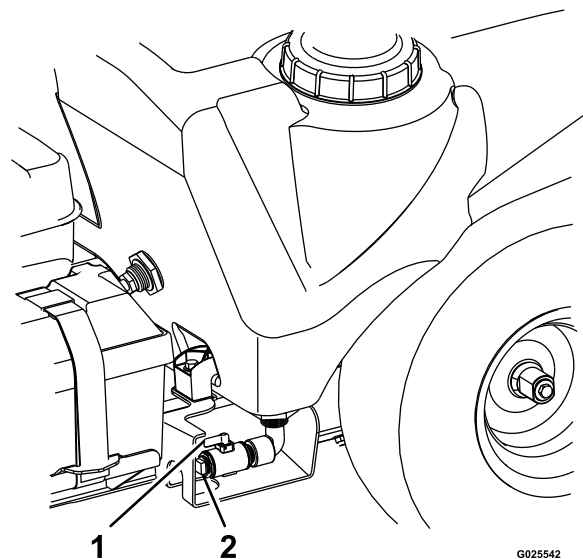

Figure 42
2. Remove the plug from the drain valve for the sprayer tank (Figure 42).
5. Rotate the handle for the drain valve clockwise 90° to drain the tank (Figure 42).
7. Close the tank-drain valve, remove the drain hose, and install the drain plug into the valve (Figure 42).